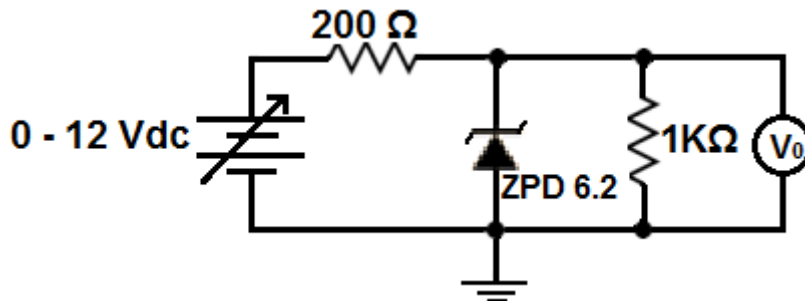

Figure 5.3: Zener diode circuit (with load).
4. Repeat steps 1 to 3 for figure 5.3.